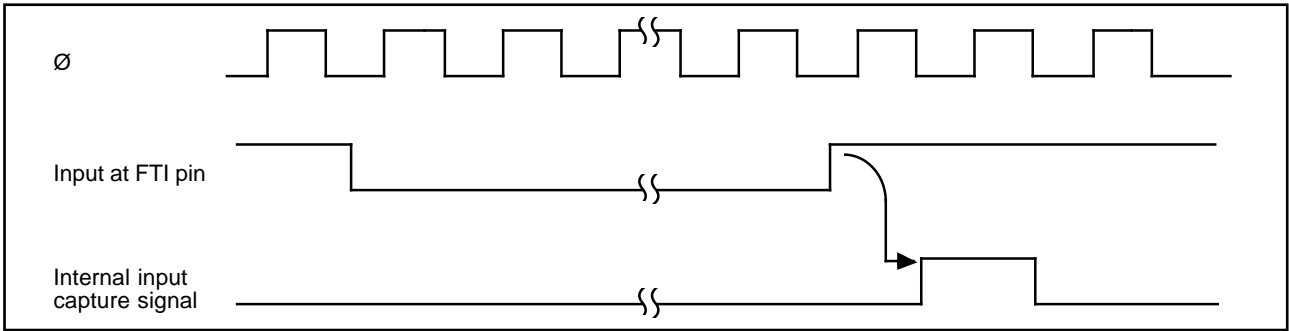

Figure 6-12. Input Capture Timing (Usual Case)
(1) Input Capture Timing: An internal input capture signal is generated from the rising or falling edge of the signal at the input capture pin FTIx (x = A, B, C, D), as selected by the corresponding IEDGx bit in TCR. Figure 6-12 shows the usual input capture timing when the rising edge is selected (IEDGx = “1”).